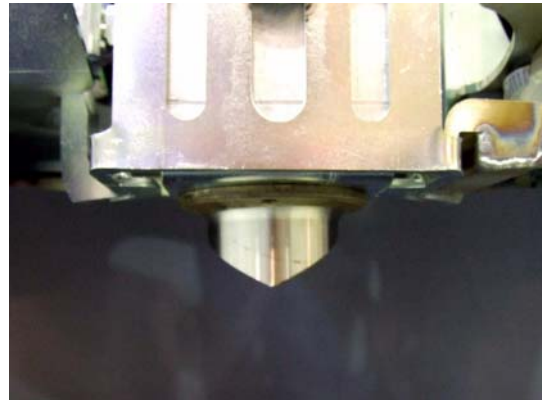

Figure 37: The blade in lower position.
3. Set the new blade in position so that the tips are in the centre line, see figure 37.